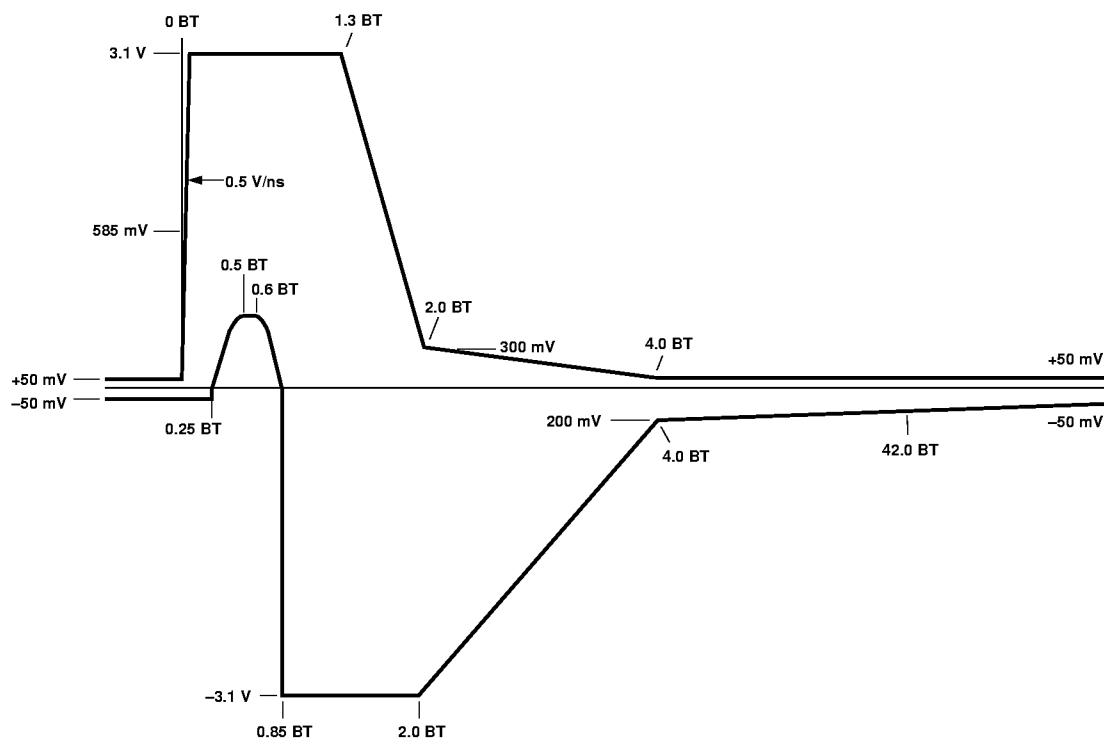
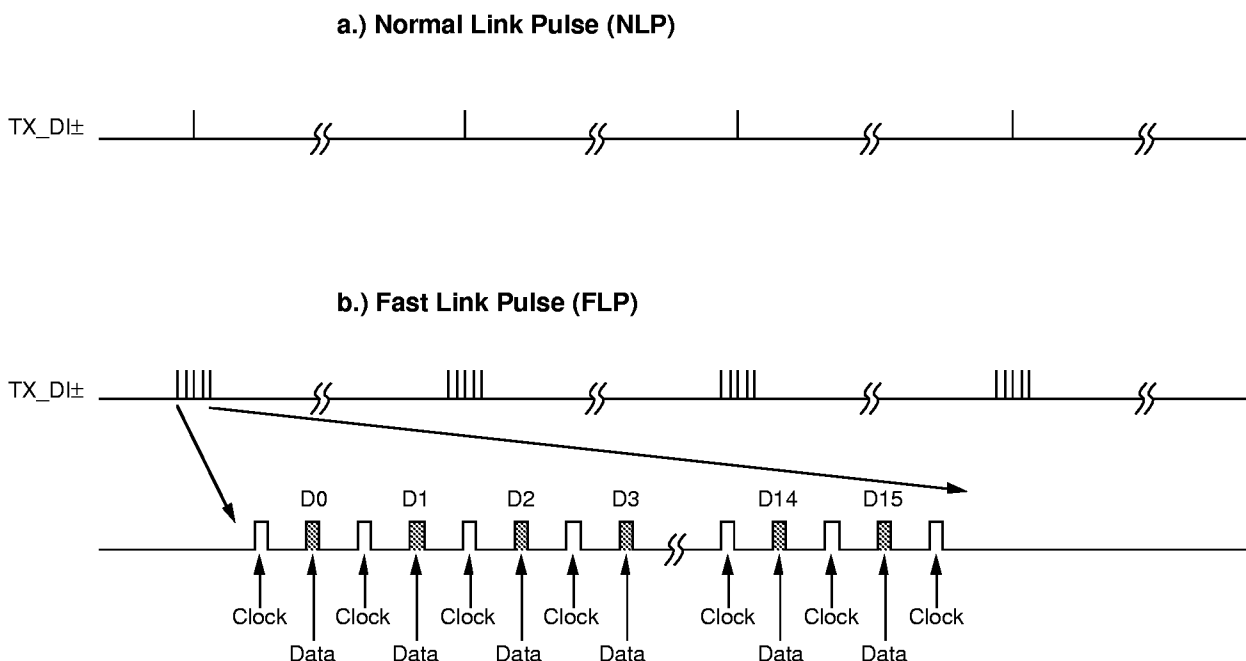

Figure 7. Link Pulse Output Voltage Template _ NLP, FLP
Figure 8. NLP vs. FLP Link Pulse
The 80223 uses the same 10Base-T link integrity algorithm that is defined in IEEE 802.3 Clause 14. This algorithm uses normal link pulses, referred to as NLP's and transmitted during idle periods, to determine if a device has successfully established a link with a remote device (called Link Pass state). The transmit link pulse meets the template defined in IEEE 802.3 Clause 14 and shown in Figure 7. Refer to IEEE 802.3 Clause 14 for more details if needed.
As stated previously, the AutoNegotiation algorithm is used for two purposes: (1) To automatically configure the device for either 10/100 Mbps and Half/Full Duplex modes, and (2) to establish an active link to and from a remote device. The AutoNegotiation algorithm is the same algorithm that is defined in IEEE 802.3 Clause 28. AutoNegotiation uses a burst of link pulses, called fast link pulses and referred to as FLP's, to pass up to 16 bits of signaling data back and forth between the 80223 and a remote device. The transmit FLP pulses meet the templated specified in IEEE 802.3 and shown in Figure 7. A timing diagram contrasting NLP's and FLP's is shown in Figure 8.